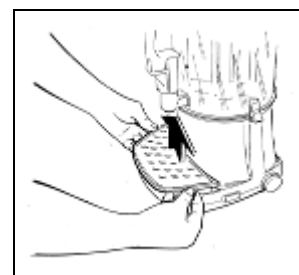

Fig. 6
- **T**o remove the drip tray (P) lift up it and pull it in the direction of the arrows as shown in fig. 6.